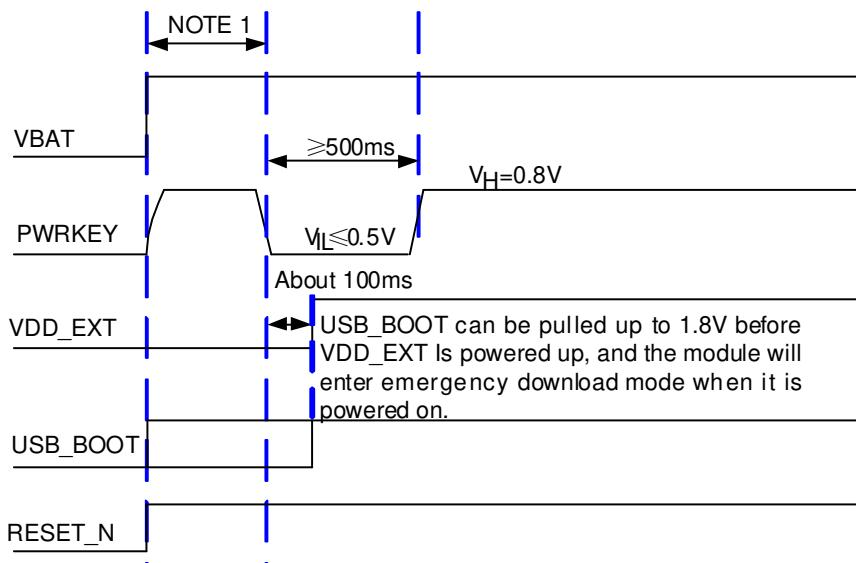

Figure 31: Timing Sequence for Entering Emergency Download Mode
2. When using MCU to control module to enter the emergency download mode, please follow the above timing sequence. It is not recommended to pull up USB_BOOT to 1.8V before powering up VBAT. Connect the test points as shown in **Figure 31** can manually force the module to enter download mode.